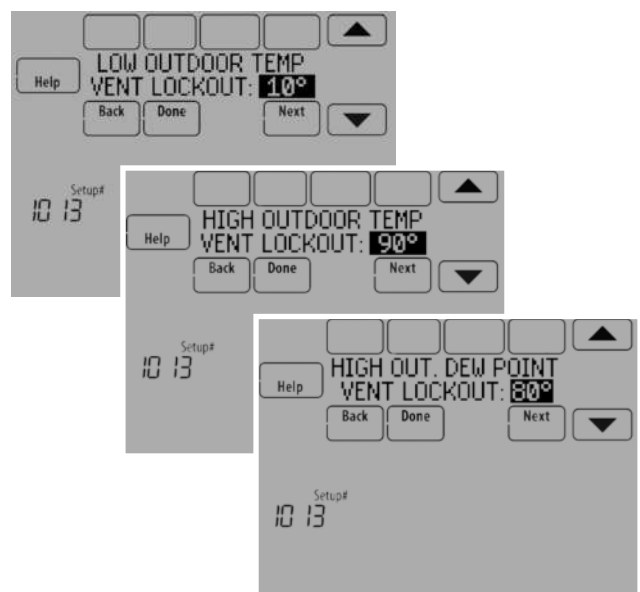

Fig. 234.
9. Select the Outdoor Condition Lockouts. See Fig. 234. See "Ventilation — Outdoor Condition Lockouts (ISU 1013)" on page 93 for more information.